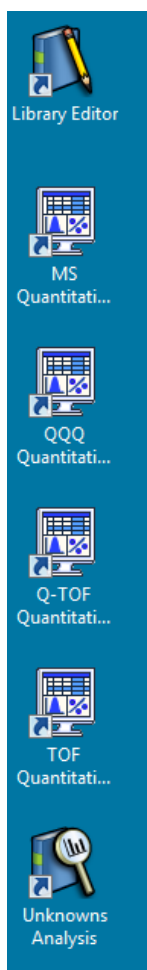

Figure 22 Desktop with Icons
- l Confirm that the icons you selected appear on your desktop (Figure 22).